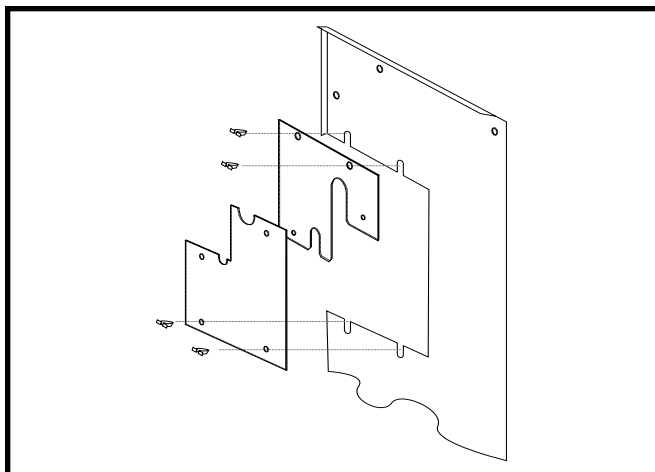

Figure 2. Close-Off Plate Assembly
5. Slide the close-off plates around the refrigerant lines and install the provided dart clips. See Figure 2.